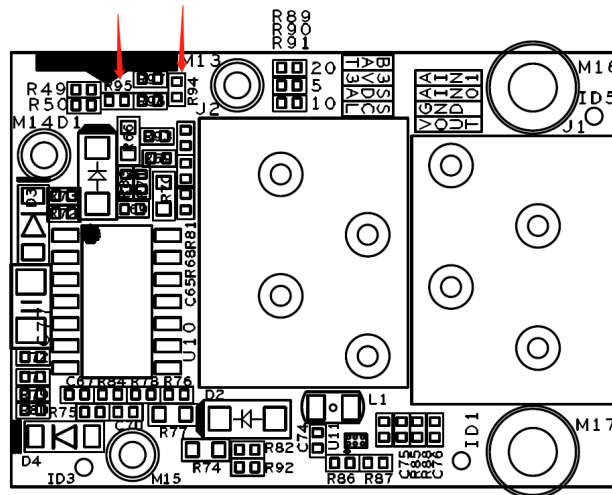

Figure 13: R94 and R95 on RAK5801.
- In RAK5801, remove R94 to R95, and use PA0 of STM32L151 to read the analog data of the channel “analog0”, and use PA2 of STM32L151 to read the analog data of Channel analog1. **Figure 13** shows the resistors R94 and R95 on the RAK5801 module.
- In RAK5801, remove R94 to R95 (see Figure 13), and use PA08 of ATSAMR34 to read the analog data of the channel “analog0”, and use PA09 of ATSAMR34 to read the analog data of Channel analog1.